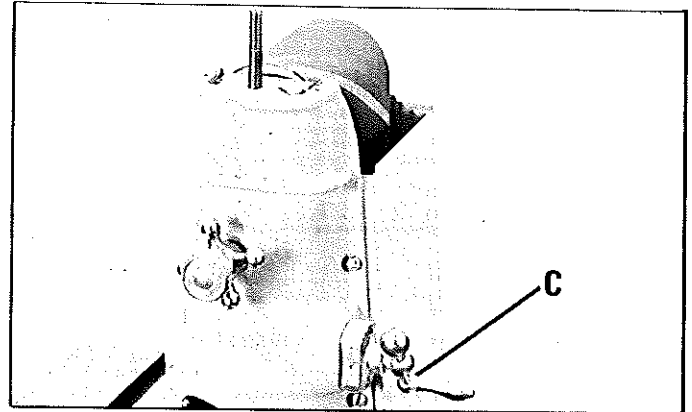

Fig. 9
2. Turn the belt tension handle (C) Fig. 9, clockwise to increase belt tension. Correct tension is determined by two things: